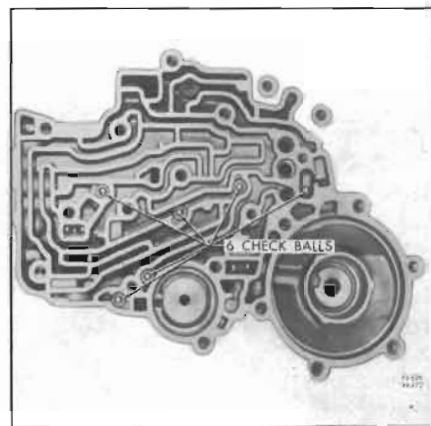

Figure 74-772
6. Install six (6) check balls into the transmission case pockets. See Figure 74-772.